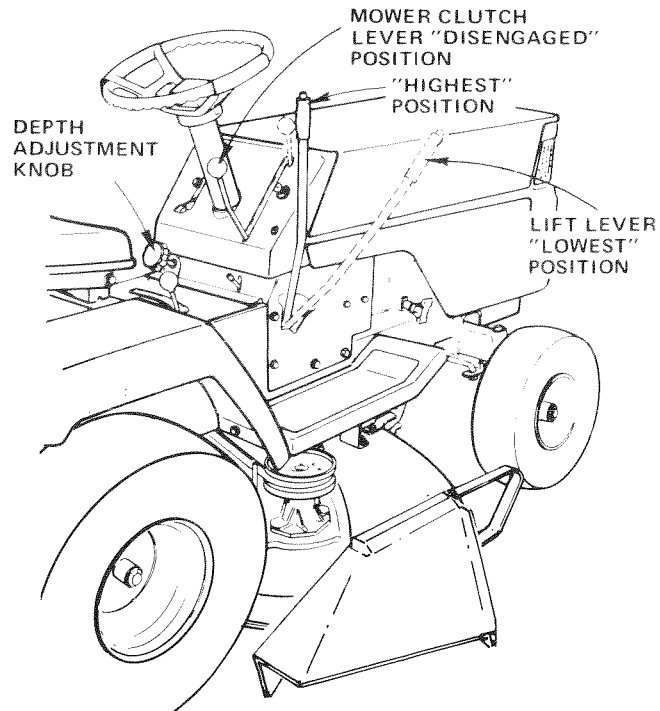

FIGURE 37
Mower Clutch Lever (Fig. 37) travels 3 - 1/2" up the slot in the dash before spring tension resistance is evident, adjustment is necessary. NOTE: CHECK FOR PROPER SPRING TENSION WITH ENGINE OFF AND LIFT LEVER IN HIGHEST POSITION.
1. Place Mower Blade Clutch Lever in "DISENGAGED" position (Fig. 37).
2. Turn Depth Adjustment Knob to lowest position. Move Mower Lift Lever (Fig. 37) forward to lower Mower to its lowest position.